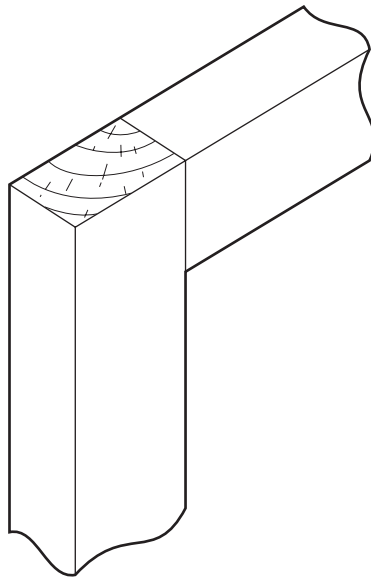

Fig. 3
- 4 Add sketches and notes to Fig. 3 to show how the corner butt joint could be strengthened.